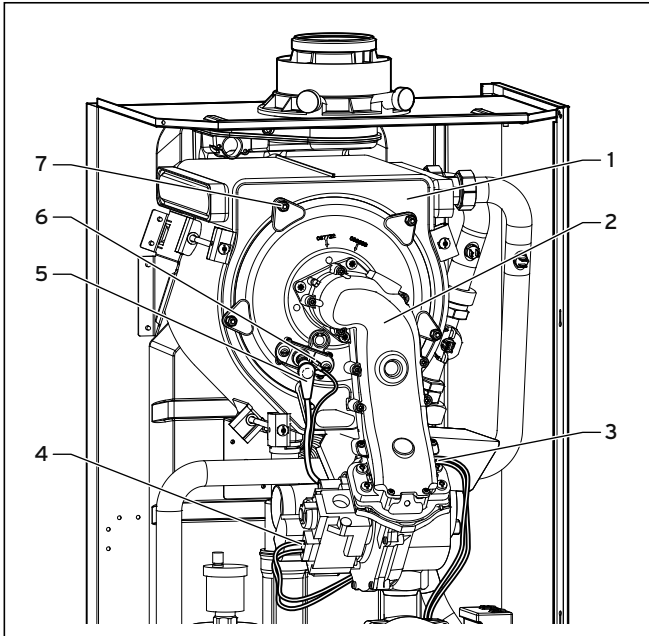

**Fig. 8.2 Removing air intake pipe**
**Open the gas feed and check the gas tightness of the boiler with leak detector spray. Check the screwed connection (1) particularly carefully.**
- Insert the air intake pipe onto the intake stubs and fasten the pipe with the retaining screw (2, Fig. 8.2).